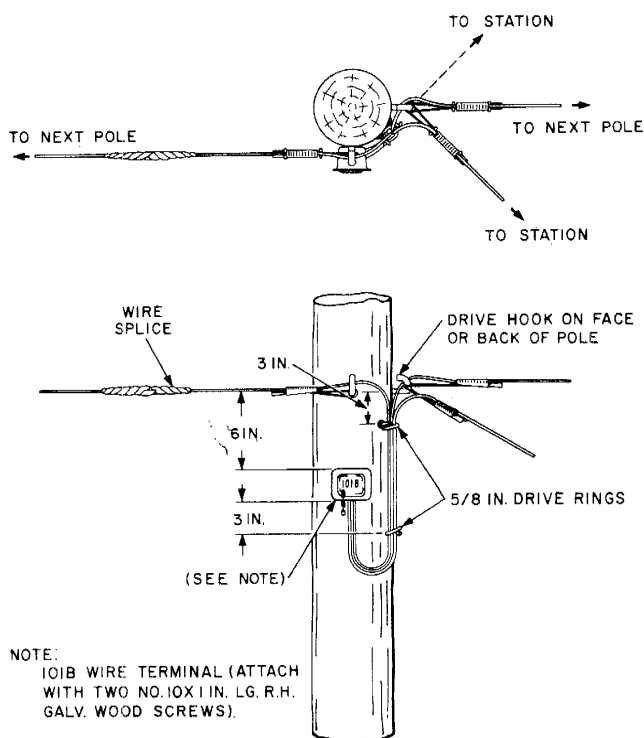

Fig. 8—Completed Party Line Tap
(3) After testing to make sure the line is not in use, cut the through drop wire about 2 feet from the first drive hook. The drop wire puller can be used to hold the wire before the cut is made.
(4) Splice a piece of drop wire to the short end of the through drop wire supported by the drop wire puller. Install a drop wire clamp on the spliced wire and place it on the new drive hook on the face or back of the pole.
(5) Place drive rings on pole and run the wire through them and terminate the two ends of the through drop wire on the binding posts of the wire terminal. Terminate the bridging drop wire in the wire terminal on top of the through wire connections. The complete party line tap is illustrated in Fig. 8.
- (1) Place a 101B wire terminal on the pole and cut the existing subscriber circuit into it.
- (2) Terminate the drop wire extension in the 101B wire terminal to make the bridging connection.
- (3) Splice out the existing drop loop and terminate it in the wire terminal. The complete arrangements are similar to those shown in Fig. 8.